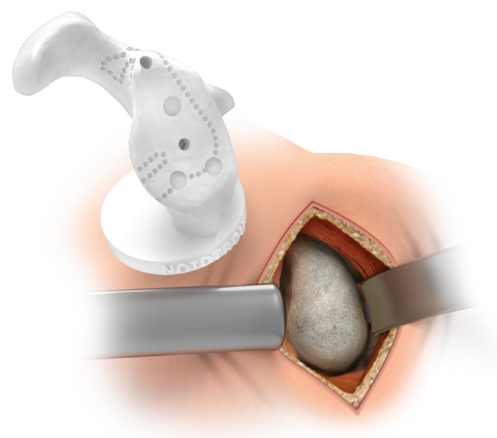

Figure 4
- ⓘ **Note:** The Signature ONE Pin Guide was designed to reference the glenoid fossa, the anterior glenoid rim, and the glenoid-coracoid junction. It is important to compare the native glenoid bone with the provided patient specific bone model to ensure that all of the soft tissue has been removed from the area that the guide registers on (Fig. 4). This may be done with direct finger palpation along the entire glenoid surface and coracoid base. This area must be free of interfering soft tissue to allow seating of the pin guide.